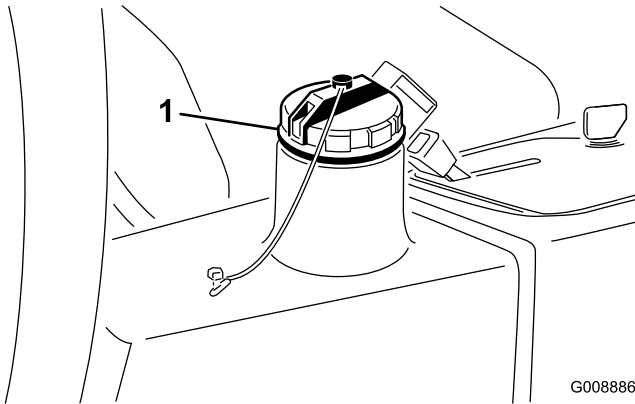

Figure 40
2. Clean the area around the filler neck and cap of the hydraulic fluid tank (Figure 40) and remove the cap.